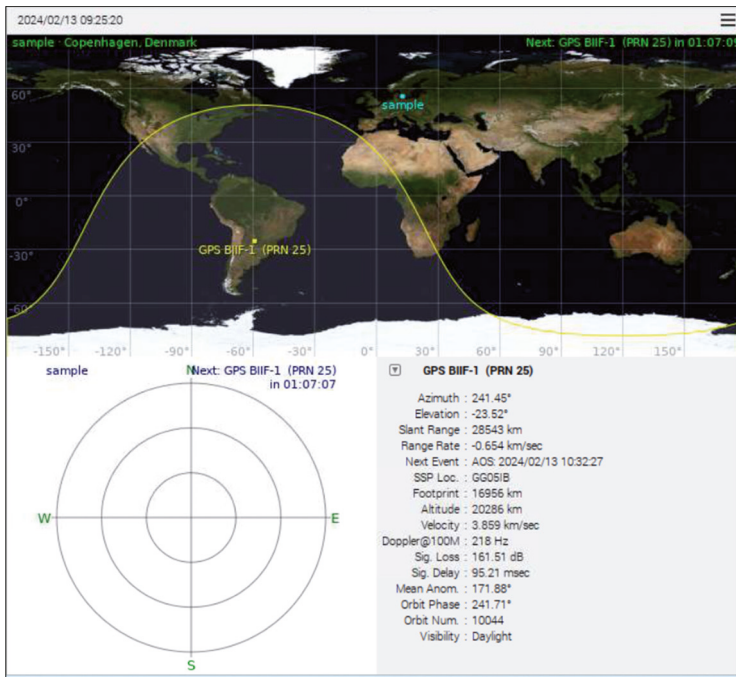

Figure 17.5: Map and the selected satellite.
- Figure 17.5 shows the map and the selected satellite. Navigational data is given about the selected satellite at the bottom right hand side of the map.